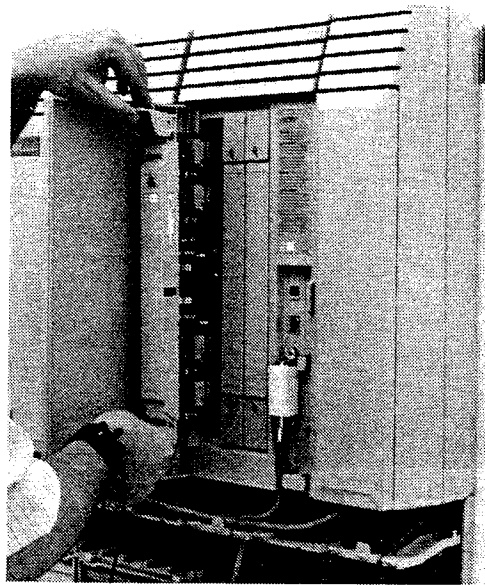

Figure 3.17 - Installing Trunk Cartridge (TC)
4. While holding the latches open, insert the Trunk Cartridge (TC) in the appropriate slot, as shown in Figure 3.17, and close the latches at the same time to align the cartridge properly.